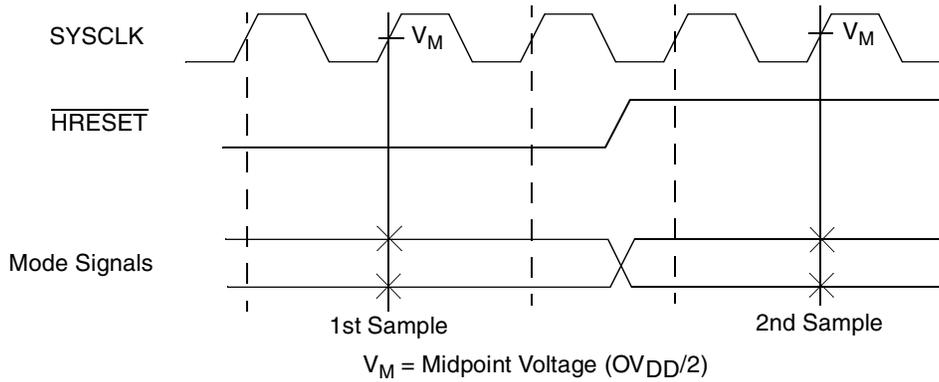

Figure 5. Mode Input Sample Timing Diagram
Table 9 provides the processor bus AC timing specifications for the MPC7447A as defined in Figure 4 and Figure 5.
- $\overline{\text{BMODE}}[0:1]$ and $\overline{\text{BVSEL}}$ are mode select inputs and are sampled before and after $\overline{\text{HRESET}}$ negation. These parameters represent the input setup and hold times for each sample. These values are guaranteed by design and not tested. These inputs must remain stable after the second sample. See Figure 5 for sample timing.
Figure 5 provides the mode select input timing diagram for the MPC7447A. The mode select inputs are sampled twice, once before and once after $\overline{\text{HRESET}}$ negation.